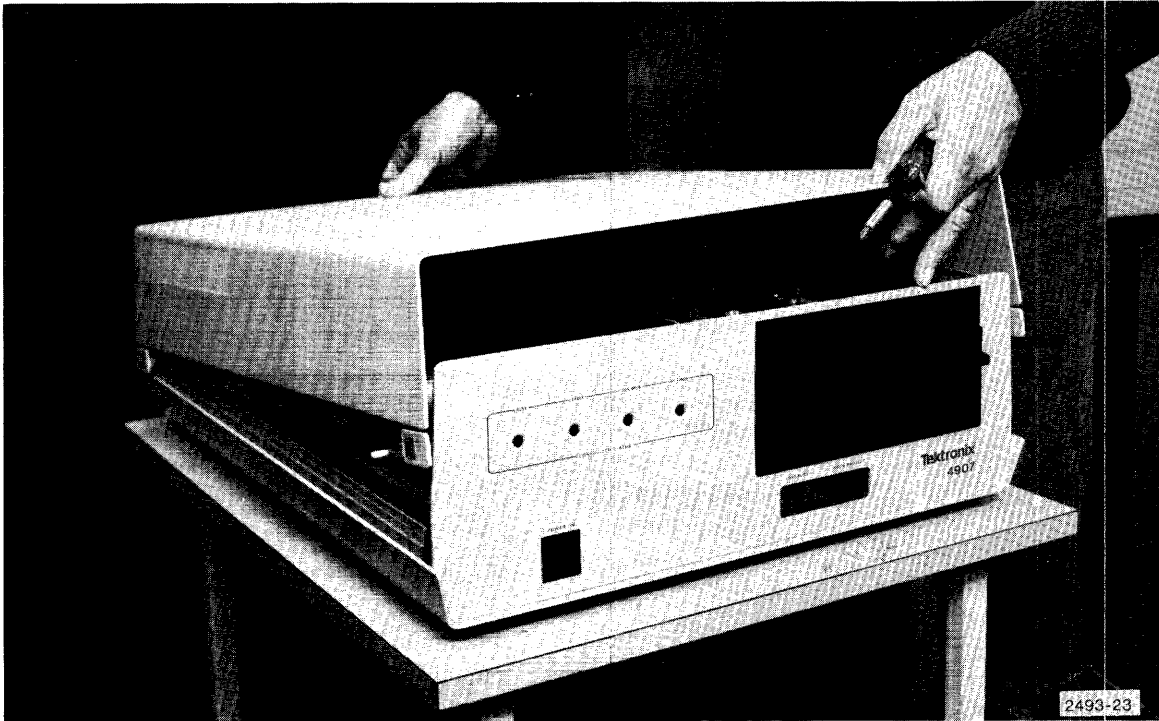

Figure 5-1. Removing main 4907 cabinet cover.
- e. Remove three screws from each side and lift cover from main 4907 cabinet (Figure 5-1).